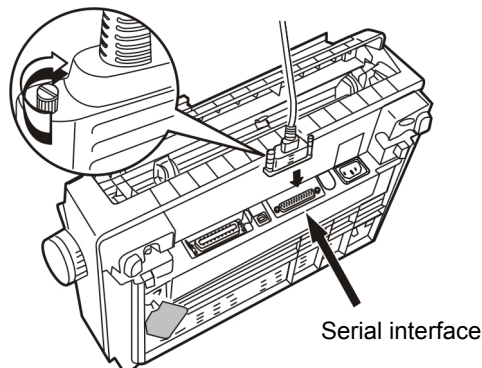

Figure 1-23 Connect to serial cable
1. Turn off both the computer and the printer. Plug the serial cable securely into the printer's serial interface. Tighten the screws on both sides of the connector. (As shown in figure1-23)